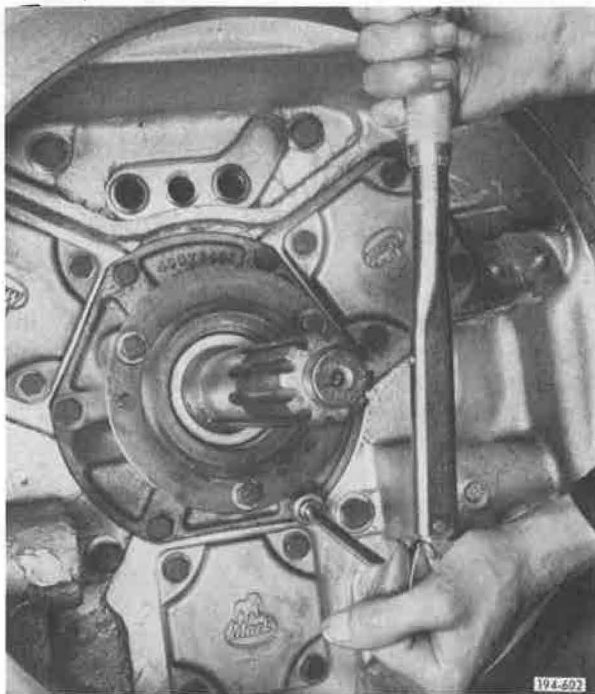

Figure 5-948. Torquing Capscrews
9. Install main drive pinion cover capscrews, and tighten to recommended torque. See Figure 5-948. Refer to Torque and Tolerance Table, Item 6.